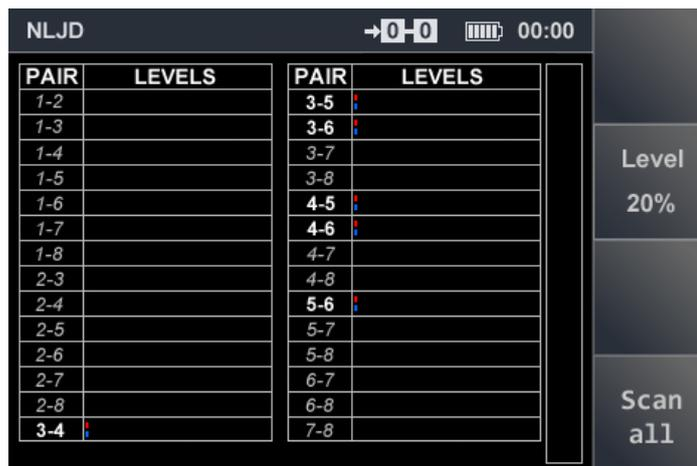

Fig.55
8. Press "F4". The Analyzer will alternately connect and test all pairs of telephone cable wires. Upon completion of testing, the levels of the received signals at the second (red color) and third (blue color) harmonics will be display in the corresponding columns of the table. If there are no connected electronic devices on the cable, the measurement results will be display on the screen shown in Fig. 55. The levels of reflected signals are negligible and the same.